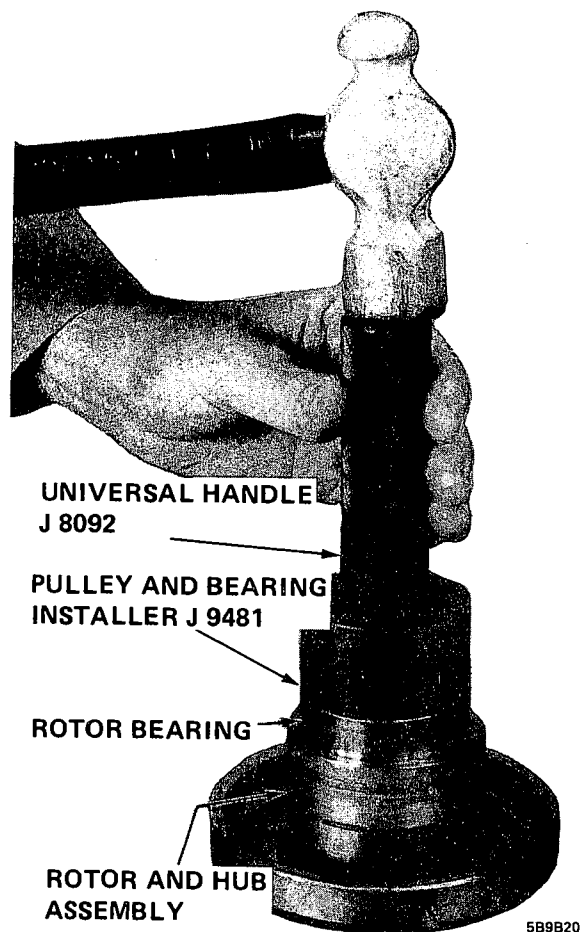

Figure 9B-44 - Installing Bearing Into Hub - 4 Cylinder Compressor
3. Remove the four front head mounting screws and remove the front head assembly. See figure 9B-47. At this
point the front head and bearing assembly, the front head seal ring or the Belleville and thrust washers may be replaced. See figure 9B-48. Cleanliness must be exercised to keep the parts and internal compressor mechanism from being contaminated by dirt, lint, etc.